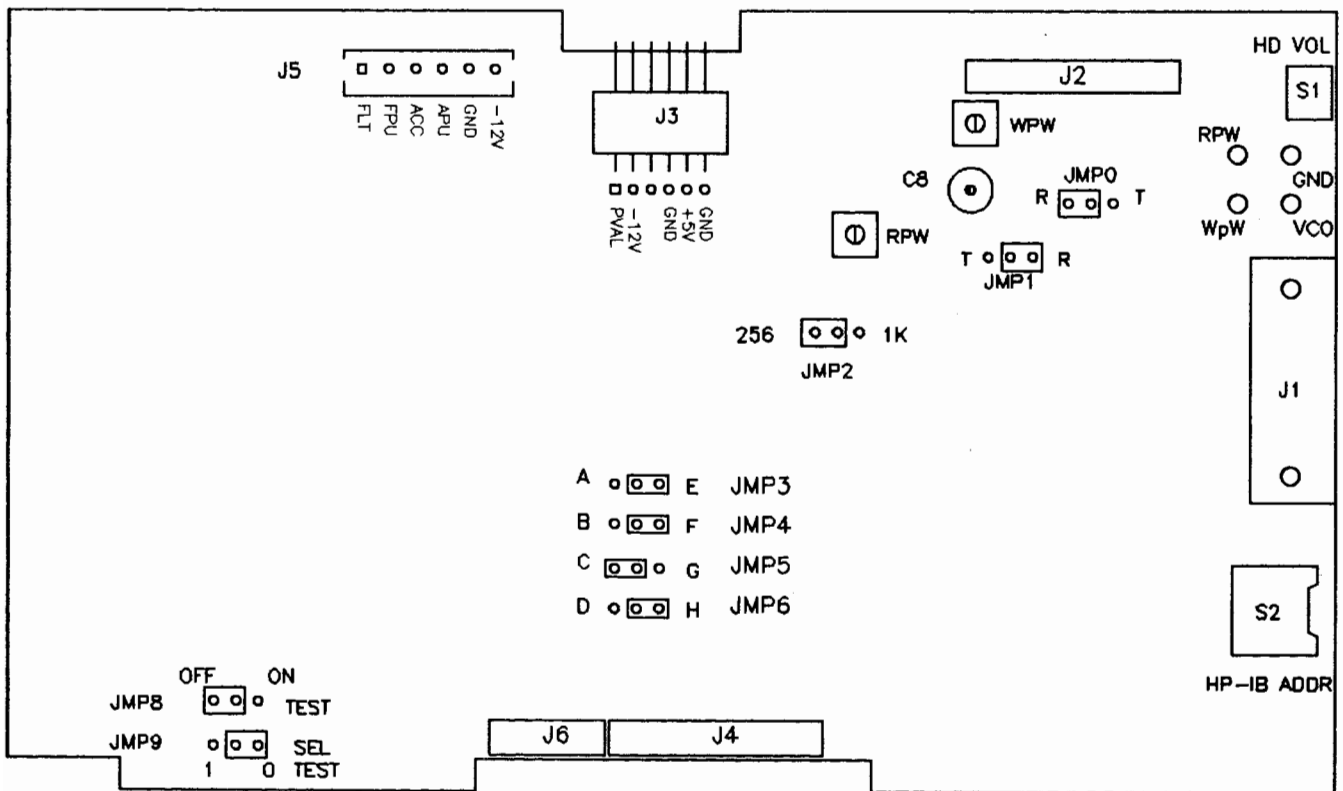

Figure 4-3. Controller jumper location.
3. **Switch/Jumper Selected:**The Test Jumper (JMP8) starts the test that is selected by the 4-bit HP-IB Address Switch and Select Test Jumper (JMP9). If JMP8 is left in the on position (0), the test will be repeated. When JMP8 is taken out of the test position, the unit finishes the selected test, goes through the power-on sequence, and is then ready for HP-IB commands. Use Figure 4-3 for location of JMP8 and JMP9.